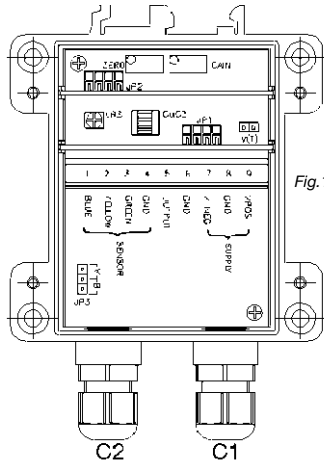

Fig. 1
Identify the Sensor Calibration Module Card (SCMC) supplied with the ICT transducer. Insert the SCMC card into position JP1. (See Fig.1)
Step 2 Unscrew cable glands C1 & C2. (See Fig.1). See note [4] regarding cable diameter.
Step 3 Pass the ICT cable through gland C2 into 'SENSOR' zone on EICT board. Connect the ICT to the terminals on the EICT board, as indicated below and shown in Fig.1 & Fig. 5.
Step 4 Locate 'jumper' JP3 on EICT board (see Fig.1). This determines the 'sense' of the voltage/current output with respect to the ICT core position. Locate the 'jumper' in the required position (See Fig. 2). The EICT is factory set with JP3 in position 'A'.
Step 5 Locate JP2 on EICT board (see Fig.1).
If required VOLTAGE signal output is anything other than 0.5 - 4.5Vdc (An additional Voltage Module (VM) output option card is required) then remove 'jumper' from JP2 and store on V(T) LINK PARK terminals. (see Fig.1)
Remove 'jumper' from JP2 and store on V(T) LINK PARK terminals. (see Fig.1) Insert Current Module (CM) output option card into position JP2. Change DMM (already connected between terminals 5 & 4) range settings to measure a 4 - 20mA current output. Power up EICT.